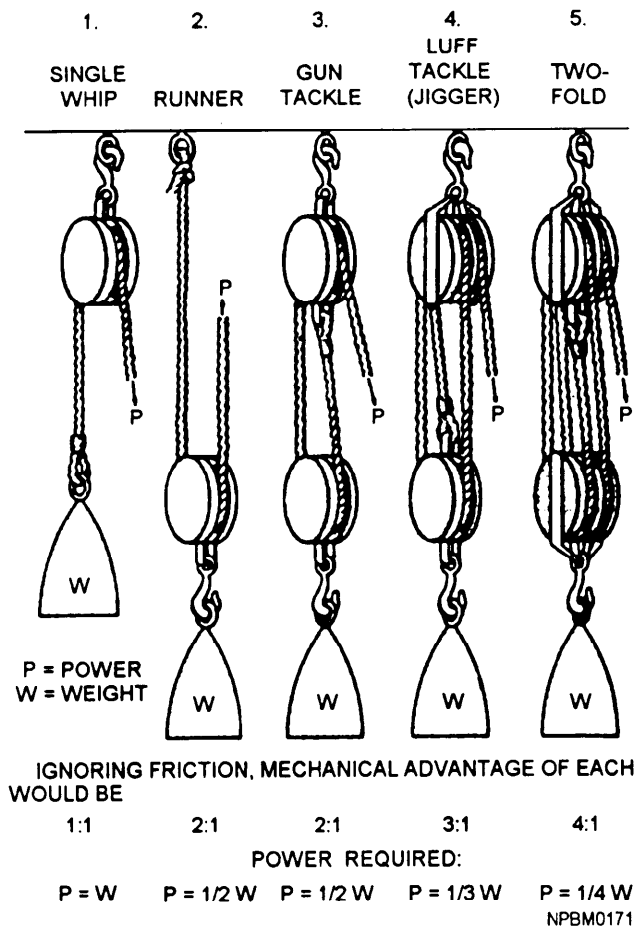

Figure 8-7.—Blocks and tackles.
purchase—or (2) the purpose for which the tackle is used—yard tackles, stay tackles, or fore-and-aft tackles. In this section, the most commonly used combinations (fig. 8-7) are described.
- **SINGLE WHIP:** A single whip consists of one single-sheave block fixed to a support with a line passing over the sheave (view 1, fig. 8-7).
- **RUNNER:** This, too, consists of a single block, but the block is free to move; one end of the line is secured to the support; and the weight is attached to the block (view 2, fig. 8-7).
- **GUN TACKLE:** This tackle is made up of two single blocks, as shown in view 3, fig. 8-7. It takes its name from the use made of it in hauling muzzle-loading guns back into battery after they have been fired and reloaded.
- **LUFF TACKLE (JIGGER):** A double and a single block make up this tackle (view 4, fig. 8-7).
- **TWOFOLD PURCHASE:** A twofold purchase, which is made up of two double blocks, is shown in view 5, fig. 8-7.
- **BOAT FALLS:** Boat falls may be twofold, double luff, or threefold and are reeved as shown in figures 8-7, 8-8, and 8-9. Boat falls should be reeved by the right-angle method.